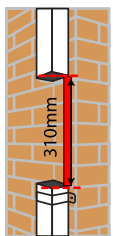

fig 4
1. Mark the gap required 310mm in the downpipe. [fig.4]